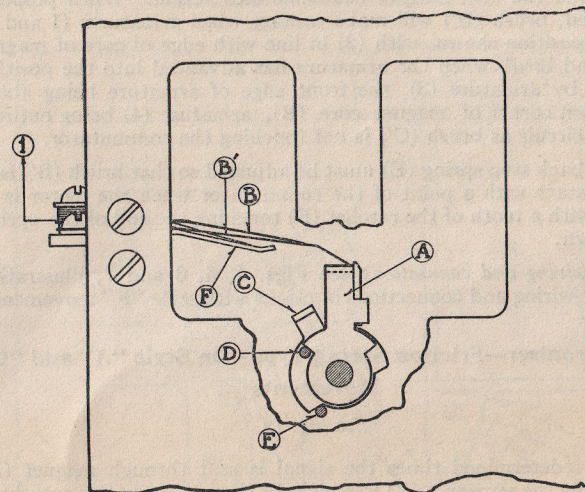

Fig. 11
The circuit is closed by arm (A), see Fig. 11, loosely mounted on the center arbor and carried around by a pin (D) in the center wheel until it is upright, when it makes contact with the
Take movement from case. Take out the pallet arbor button and allow train to run down slowly so as not to break the pins. Never let the clock run down backward as this will cause the arm (A) to be carried back against the brush (B), see Fig. 11, and bend it out of adjustment. Remove the motor. Take off front plate and separate all parts. Wash the plates and all parts in Pyrene and let them dry thoroughly before assembling. The motor must not be taken